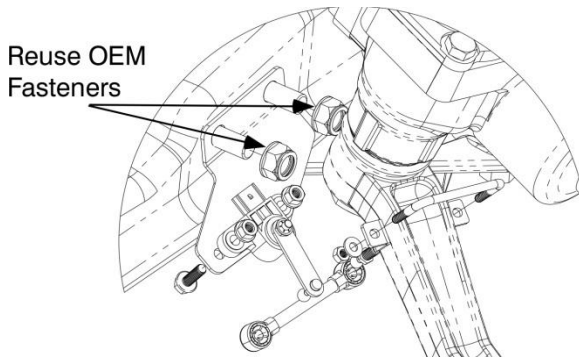

Figure 26: Steering Sensor Installation
3. Remove and retain the two nuts securing front track rod mount to cross member. See Figure 26.